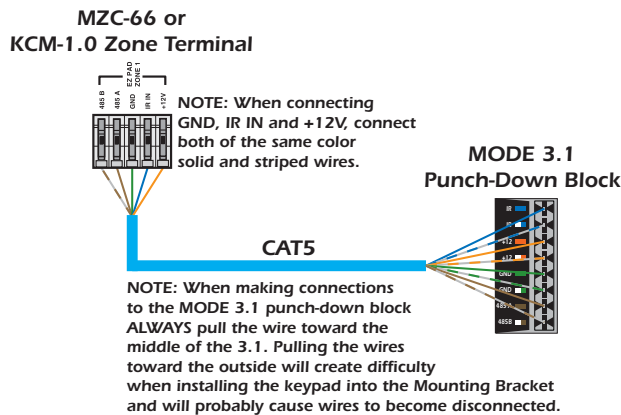
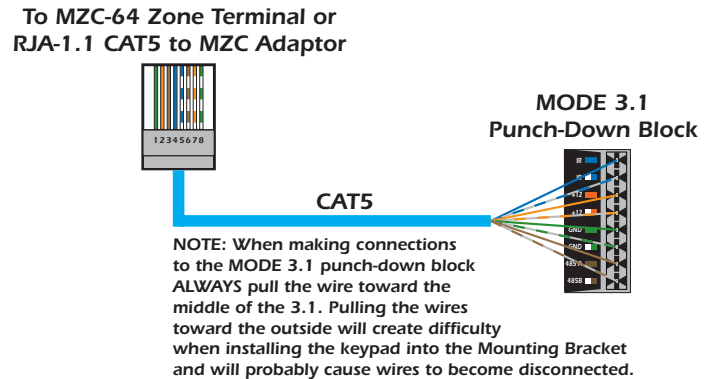

Figure 20
Figure 21
The MODE 3.1 features a four pair punch-down block that allows flexibility in wire options. CAT5 is recommended for typical use. The punch-down is color coded for CAT5 to assist in making connections. When making direct connections to the MZC, be sure to confirm color coding of each wire before making connections. (Refer to **Table 1** and **Figures 20 & 21**)
For convenience, SpeakerCraft **RJA-1.1 RJ45 to MZC Adapters** can be used. The RJA-1.1 will convert the Zone screw-down terminals on the MZC-66, (or KCM-1.0 if using MZC-88) to RJ45 for ease of installation. Refer to **Table 1** and **Figure 21** below for the RJ45 pin-out and configuration. **Do not use pre-configured 110 plug to RJ45 patch cables wired for T-568A Standard.** They do not have the proper pin-out on the RJ45 connector and will cause serious damage to the MODE 3.1.
3. Terminate and connect the head-end connection as appropriate. If connecting **directly** to an MZC-66 or KCM-1.0, Refer to **Figure 20**. If terminating in **RJ45 Connectors** and connecting to a MZC-64 or using **RJA-1.1s** Refer to **Figure 21**. Confirm all connections prior to powering up the system.